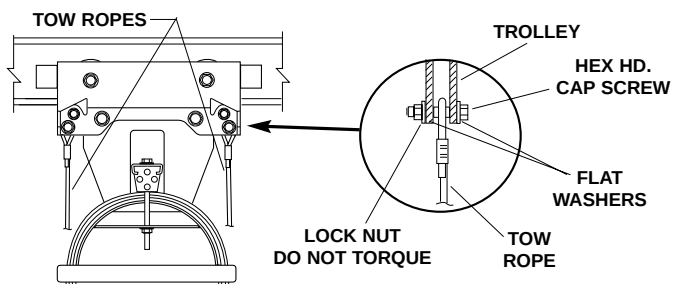

FIGURE 21—TOW ROPE INSTALLATION
1. Mount tow ropes with fasteners supplied. See Figure 21.